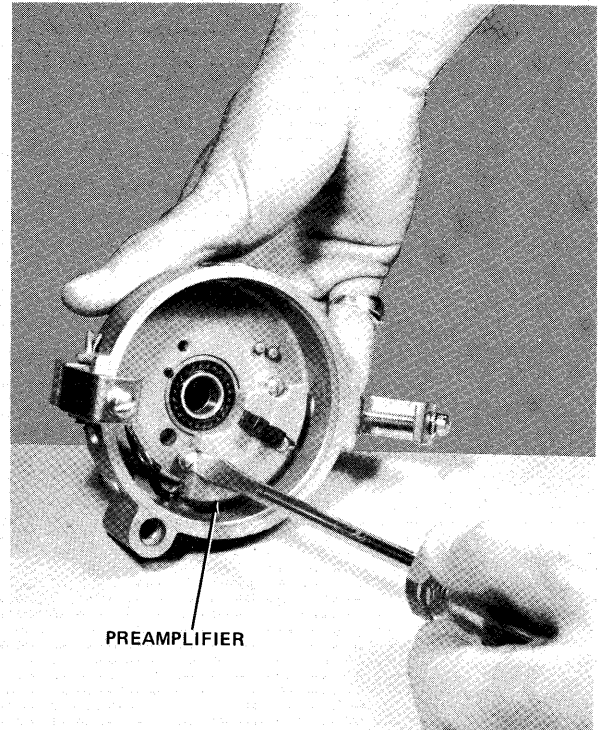

Figure 6 - Installing Preamplifier
- A. Install preamplifier on distributor housing and secure with two (2) screws and lockwashers as shown in figure 6.